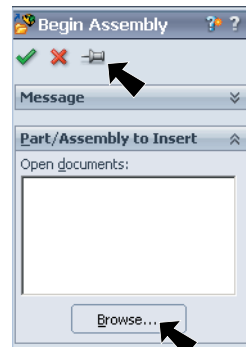

Fig. 1
- Step 2. Click **Keep Visible**  in the Property Manager, **Fig. 1**.
- Step 3. Click **Browse** in the Property Manager, **Fig. 1**.
- Step 6. Click **Browse** in the Property Manager, **Fig. 1**.